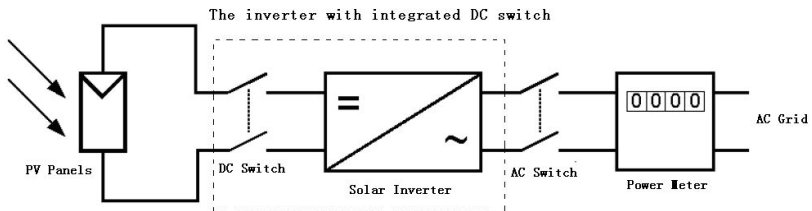

Fig.6 The PV system diagram
- C. DC Switch and AC Switch: "DC switch" is between PV Panels and solar inverter while "AC Switch" is between AC Grid (Utility) and solar Inverter. They are simplified in this diagram. In fact, they may consist of electrical breaker, fuse and connecting terminals. To comply with local safety standards and codes, the connection system should be designed and implemented by a qualified technician. JFY-tech also provides the solar inverter with an integrated DC switch demonstrated in dashed border in Fig.6. –S suffix indicates the inverter is integrated a DC switch in PV input side.